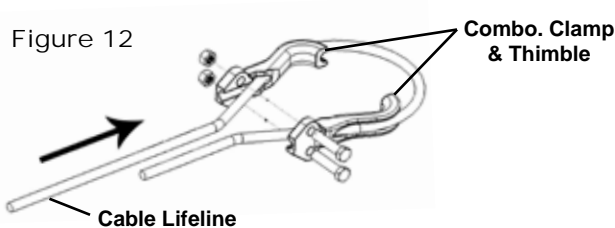
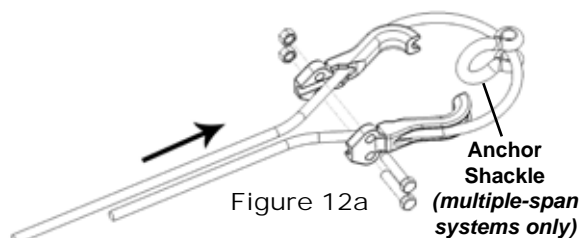

Figure 12
Figure 12a
F. Cable Lifeline to Combination Clamp and Thimble *(see Figure 12)* (and Anchor Shackle to Cable Lifeline—*Multiple-Span Systems only*—see Figure 12a)
2. Feed cable through combination clamp and thimble as shown *(see Figure 12)*, taking up as much slack in the lifeline as possible. **(For multiple-span systems be sure to place anchor shackle around cable while feeding the lifeline—see Figure 12a.)**